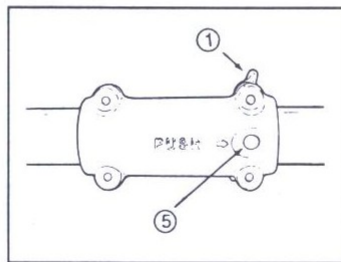
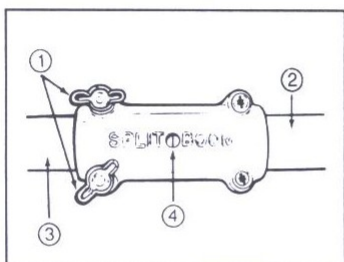

Fig. 6
Fig. 4
1. Loosen the wing screws of the Split-Boom coupler. This will allow the lower (attachment) boom to be inserted into the coupler (Fig. 4).
3. Locate and lock the release button into the hole in the coupler (Fig. 6). Check the sight hole to make sure both ends of the boom are together (Fig. 4). Tighten the wing screws before using.
4. To remove the attachment, loosen the wing screws, push the release button and pull the lower boom straight out of the coupler (Fig. 6).